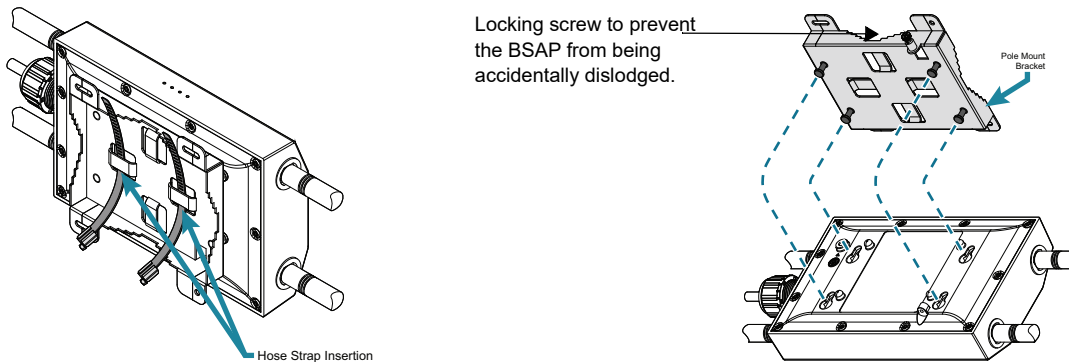

Figure 5. Insert Hose Straps for Horizontal Mounting and Securing BSAP to Mounting Bracket
- Thread the open end of the hose straps through the two tabs on the right and left of the mounting bracket so that the BSAP is aligned horizontally (as shown in Figure 5).
- Attach the chassis to the pole mounting bracket by sliding the keyed slots on the back of the chassis securely onto the bracket's protruding mounting tabs (Figure 5). Be sure to secure the BSAP 6120 to the bracket by tightening the locking screw illustrated in the image below.